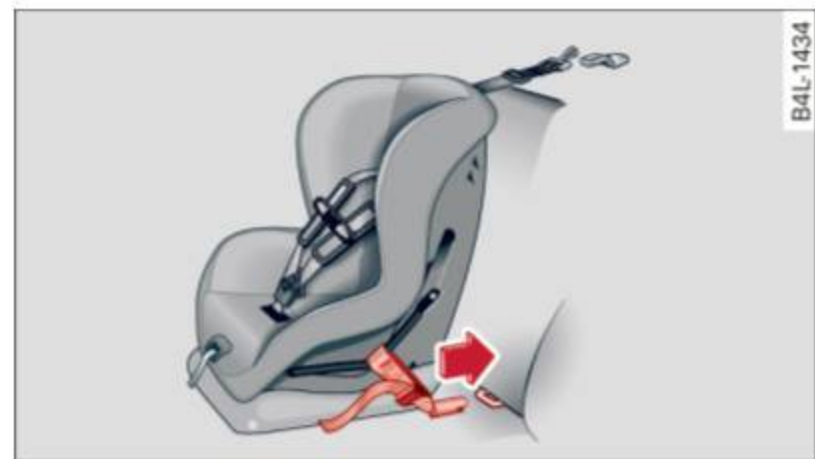

Fig. 158 Lower anchorages: proper mounting
- ▶ Attach both hook-on connectors with the spring catch release on the child safety seat onto the *LATCH* lower anchorage so that the connectors lock into place ⇒ *fig. 158*.